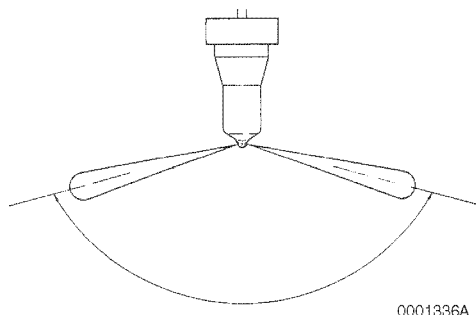
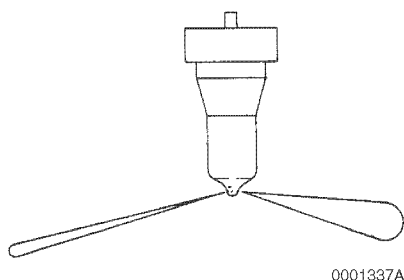

Figure 7-30
Figure 7-31
6. Pump the operating lever more rapidly to repeatedly "pop" the injector and observe the spray pattern. The pattern should be a very fine uniform spray (**Figure 7-30**). If a dripping or an uneven pattern is seen (**Figure 7-31**), service or replace the injector.